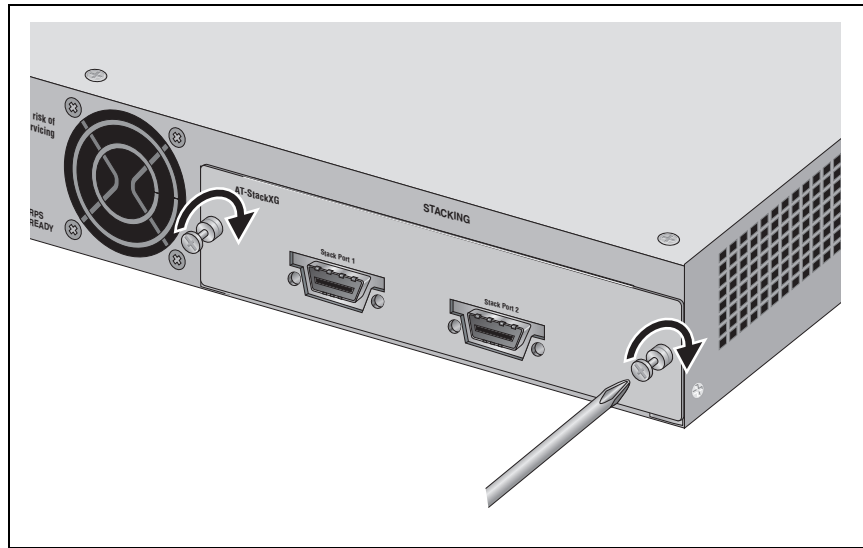
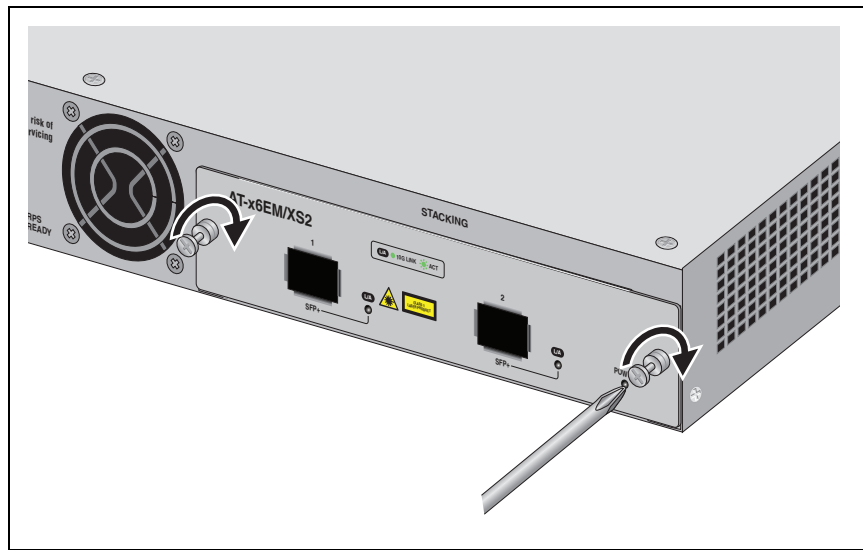

Figure 61. Securing the AT-StackXG Stacking Module
Figure 62. Securing the AT-x6EM/XS2 Stacking Module
4. Secure the power supply module to the chassis by tightening the two captive screws with a cross-head screwdriver, as shown in Figure 61 and Figure 62.
4. Secure either the AT-StackXG or AT-x6EM/XS2 stacking module to the chassis by tightening the two captive screws with a cross-head screwdriver, as shown in Figure 61 and Figure 62.